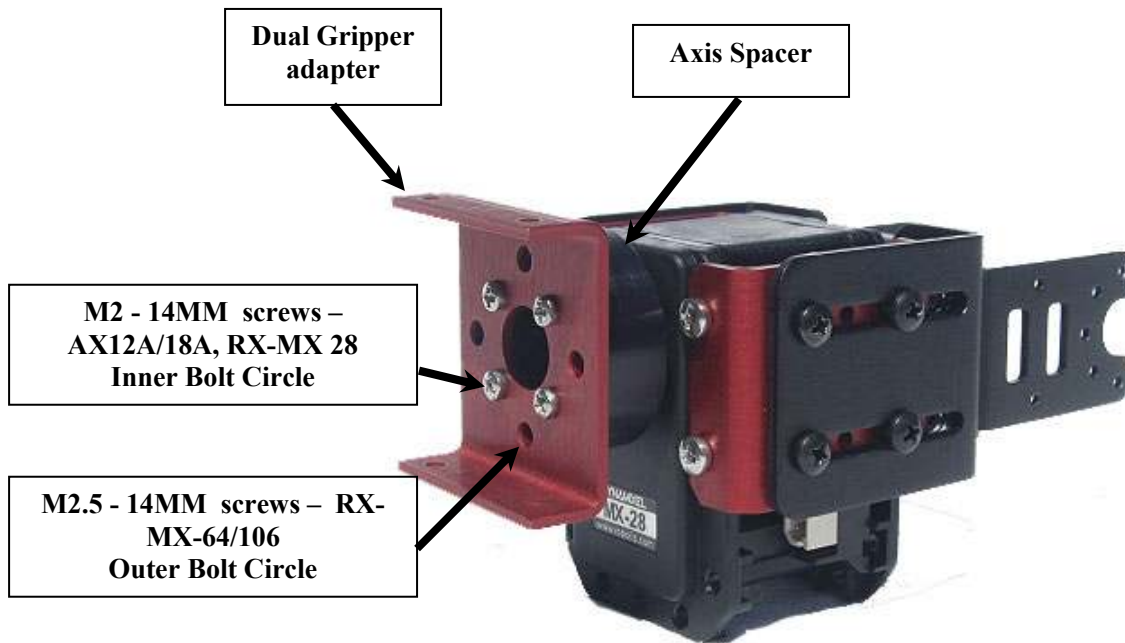

Figure 55
4. Using **(4) M2 – 14mm screws**, install the Axis spacer and dual gripper adapter to the servo horn as shown in figure 55. Use the **inner bolt circle** on the axis spacer and dual gripper adapter.
5. Using **(4) M2.5 – 14mm screws**, install the Axis spacer and dual gripper adapter to the servo horn as shown in figure 55. Use the **outer bolt circle** on the axis spacer and dual gripper adapter.